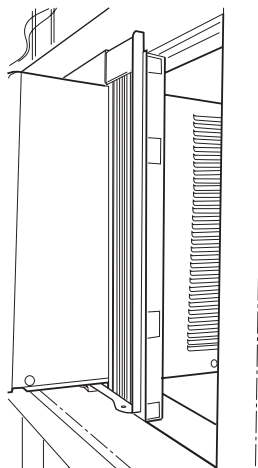

**FIGURE 5 — INSTALLING SIDE PANEL**
- Slide the top and bottom guide rails into the slots in the top and the bottom of the cabinet. See Fig. 5. Slide the panel all the way in, flush to the unit cabinet.